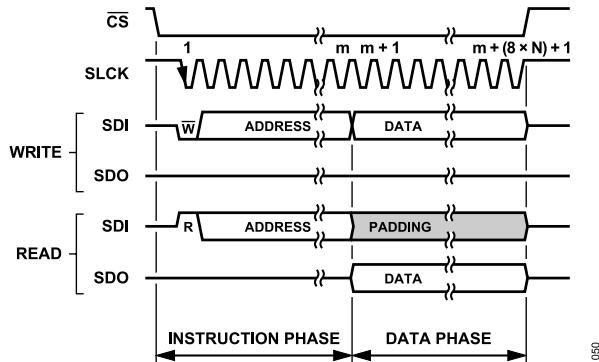
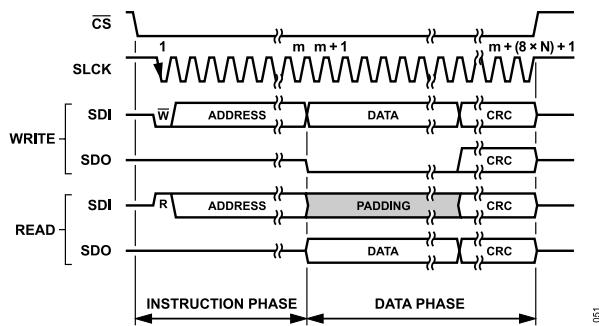

Figure 53. Generic SPI Configuration Frame, CRC Disabled
Figure 54. Generic SPI Configuration Write Operation, CRC Enabled
and the starting address for the transaction are transmitted to the AD4080. The instruction phase is immediately followed by a data transaction phase during which one or more bytes of information is exchanged between the host and the AD4080. This content is framed by a continuous assertion of the interface chip select (CS) as illustrated in the generic timing presented in Figure 53 and Figure 54.